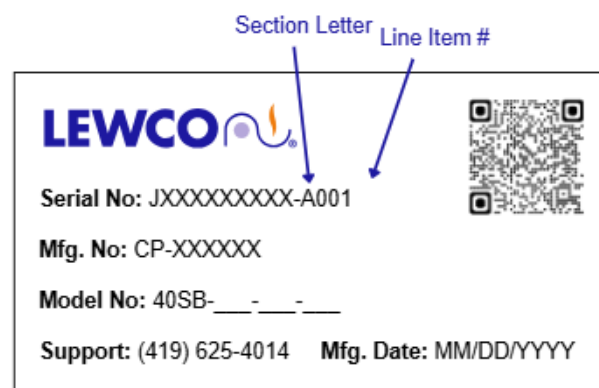

Figure 2.2 - Unit Label
- These sections should be installed according to the section label. The section label includes the order line-item number, and section assembly letter. See *Figure 2.2*. Conveyors made up of more than one section are to be assembled in alphabetical order, starting with Section Assembly A at the product infeed end.